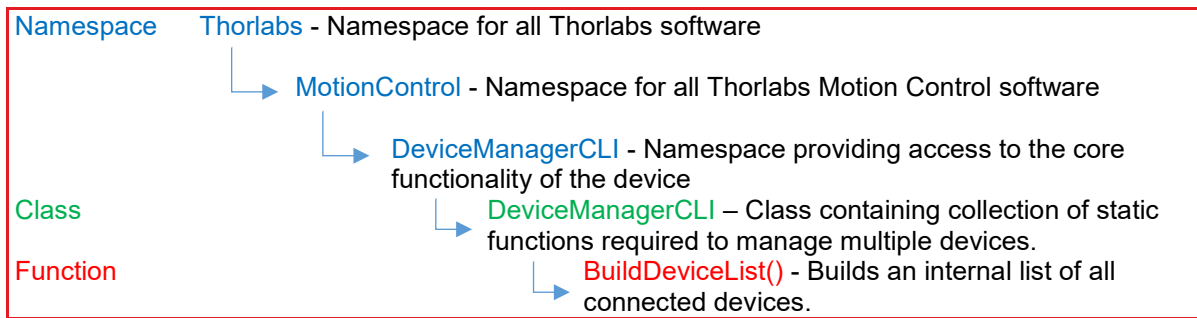

Figure 4 – Example Kinesis .DLL class hierarchy of BuildDeviceList().
e.g. Thorlabs.DeviceManager, **DeviceManagerCLI** is a generic assembly containing Thorlabs.DeviceManager, DeviceManagerCLI. **DeviceManagerCLI** class which contains the **BuildDeviceList()** function which will interact with all Kinesis compatible device types. This is further described in figure 4 below.